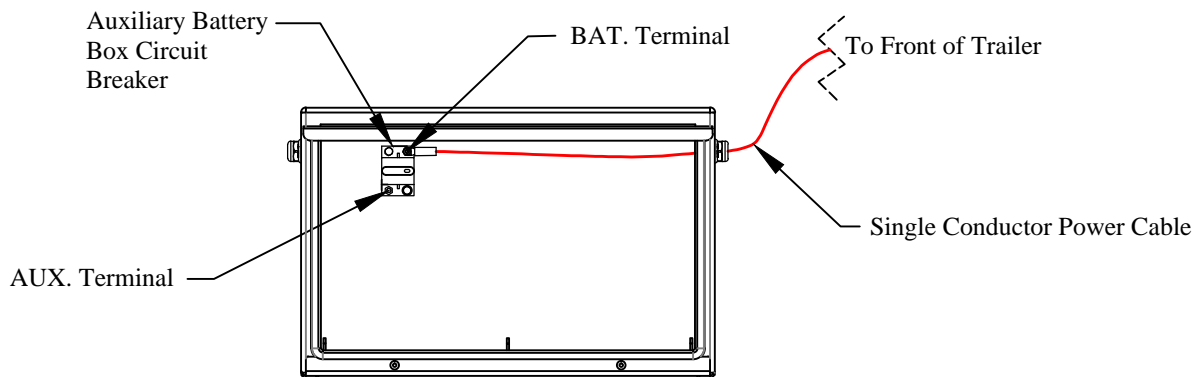

Figure 10: Circuit breaker location.
3. **Connect** the power cable to the BAT. terminal of the auxiliary battery box's circuit breaker (Figure 10).